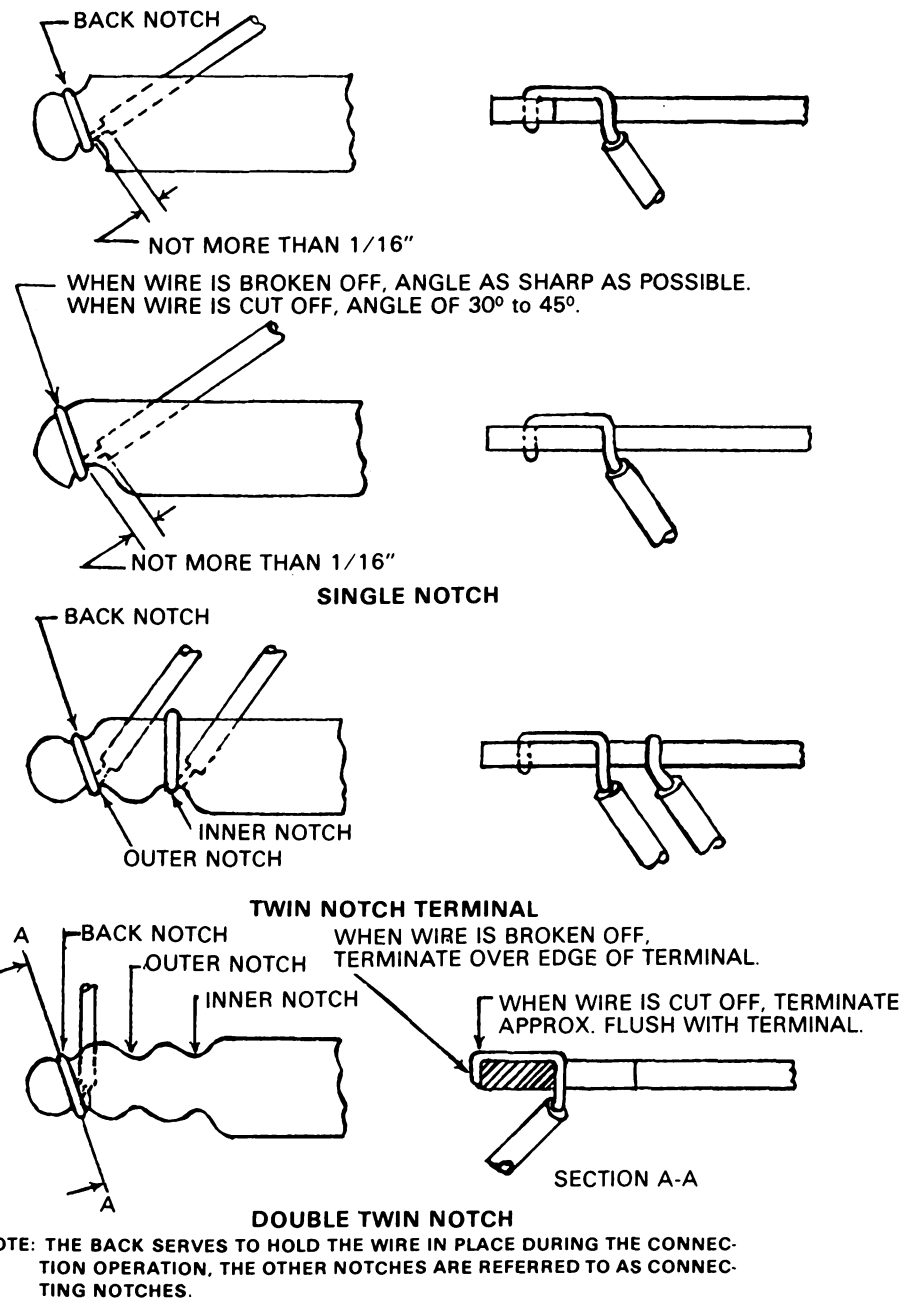

Figure 1. Connecting Wires at Various Types of Notched Terminals.
- a. Soldered connections. (Refer to TM 11-2102, para 188d and 188e, p 158; CCTM 105-50-21, para 3-19, pp 3-125 thru 3-134; TB SIG 222, para 84 thru 89, pp 68 thru 71; para 55 thru 60, pp 2 thru 8; fig 1.)
- (1) Grip the jumper behind the fanning strip.
- (2) Adjust the wire so the insulation will just fit into the notch in the terminal.
- (3) Wrap the skinned wire one turn around the terminal.
- (4) Cut or break off the excess wire.